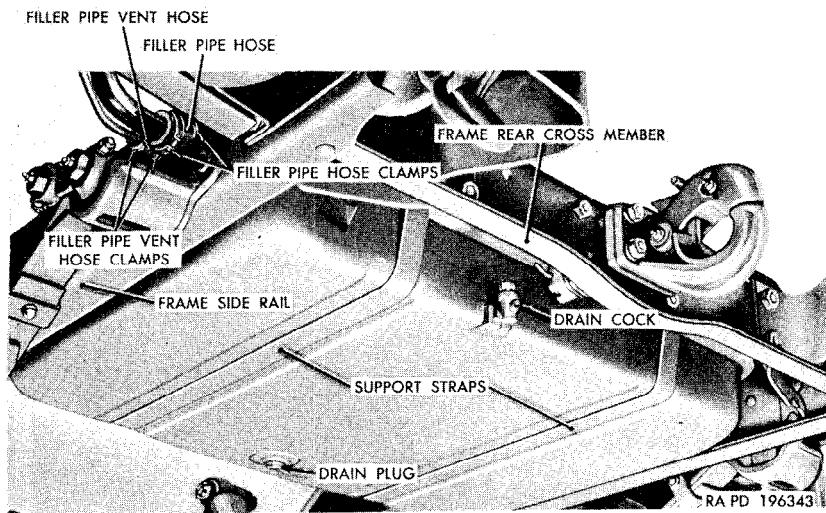

Figure 110. Fuel tank—bottom view.
- (3) Loosen the clamps on the filler pipe hose and the filler pipe vent hose (fig. 110) and separate both hoses from the tank.
- (4) Support the fuel tank, and remove the nuts and lockwashers that secure the two tank support straps (fig. 110) and hold-down straps to the fuel tank support frame crossmember.
- (1) Loosen the lower hose clamps on the filler pipe hose (fig. 110) and the filler pipe vent hose, and free the two hoses from the lower filler pipe and the lower vent line.